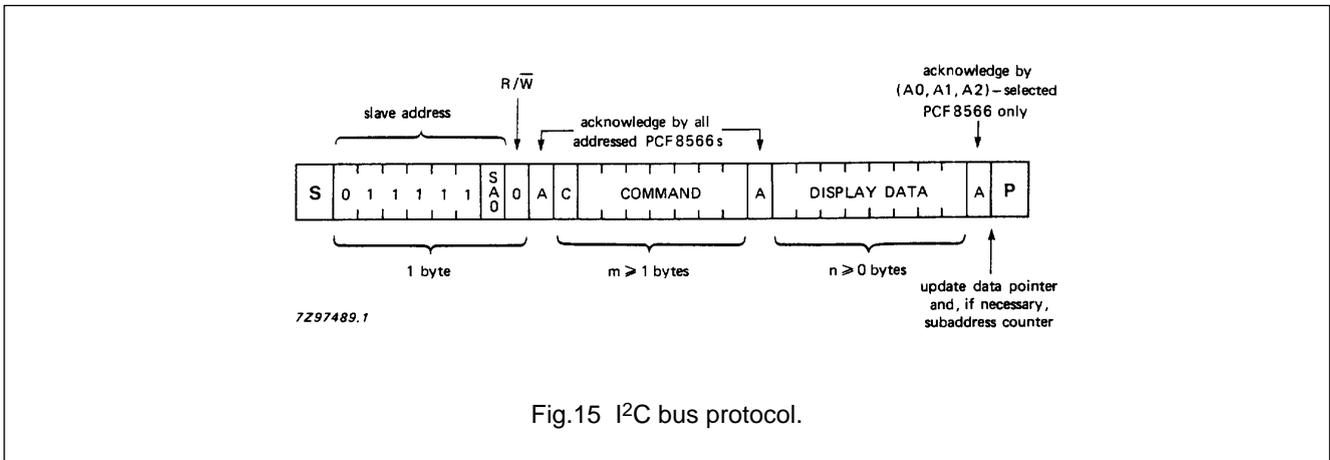

Fig.15 I²C bus protocol.
The I²C bus protocol is shown in Fig. 15. The sequence is initiated with a start condition (S) from the I²C bus master which is followed by one of the two PCF8566 slave addresses available. All PCF8566s with the corresponding SA0 level acknowledge in parallel the slave address but all PCF8566s with the alternative SA0 level ignore the whole I²C bus transfer. After acknowledgement, one or more command bytes (m) follow which define the status of the addressed PCF8566s. The last command byte is tagged with a cleared most-significant bit, the continuation bit C. The command bytes are also acknowledged by all addressed PCF8566s on the bus.